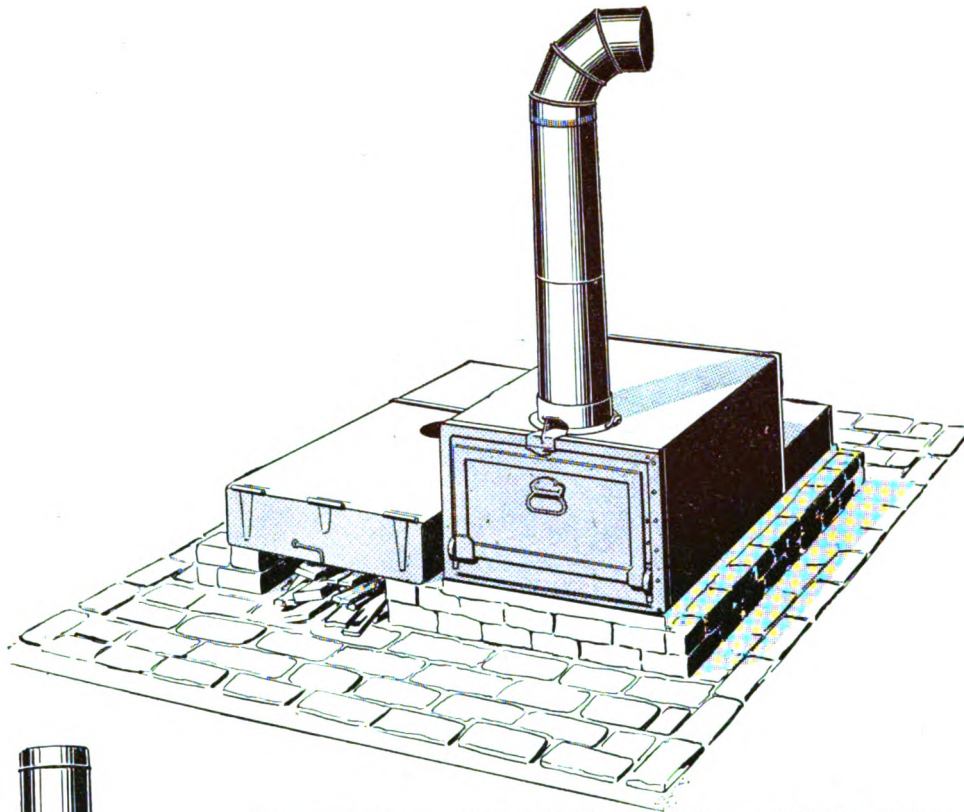

Figure 58. Range, Army field, No. 1, installed on brick foundation.
f. If the range is to remain in place for an extended period of time, do not dig a trench, but proceed as follows: (See fig. 58.)
(1) If sufficient bricks are available, lay an entire brick floor for the range. Flat stones or hard clay may be used in place of bricks.
(2) Set up the range on the brick floor or on the level ground and mark the complete outline of the range.
(3) Remove all parts of the range and build a wall, 3 bricks high and 8 inches wide, on the outline marks and on the line between the oven